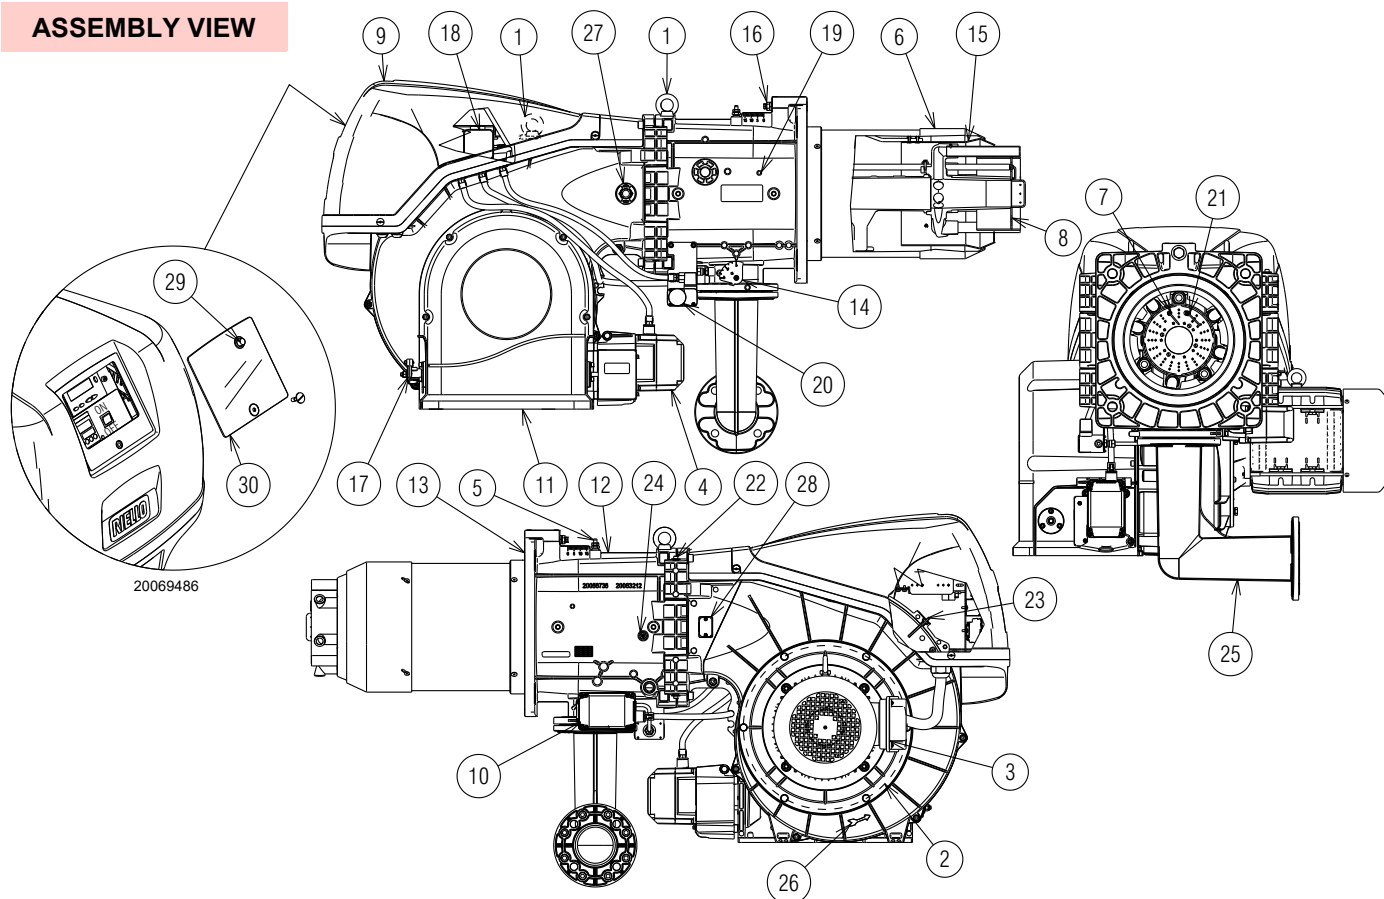

Fig. 4
- (1) Reference conditions: Room temperature 20°C - Gas temperature 15°C - Barometric pressure 1013 mbar - Altitude 0 m a.s.l.
(2) Pressure at the test point of the pressure switch 5)(Fig. 4 on page 12) with zero pressure in the combustion chamber and at maximum burner output.
(3) Sound pressure measured in manufacturer's combustion laboratory, with burner operating on test boiler and at maximum rated output. The sound power is measured with the "Free Field" method, as per EN 15036, and according to an "Accuracy: Category 3" measuring accuracy, as set out in EN ISO 3746.